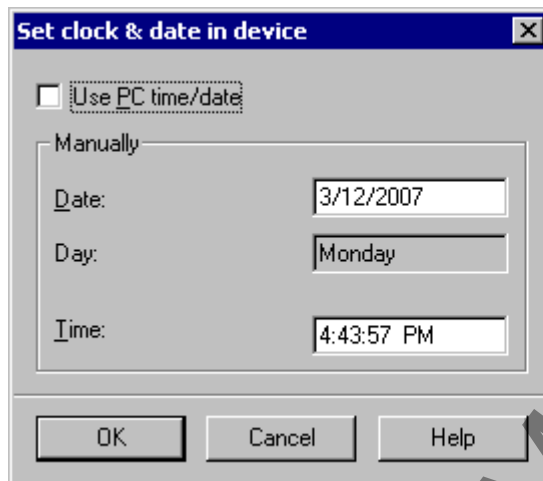

Figure 6-26 Set clock & date in device dialog box
- ❑ Enter date and time in the corresponding boxes. Observe the correct notation (see Figure 6-26, page 242).